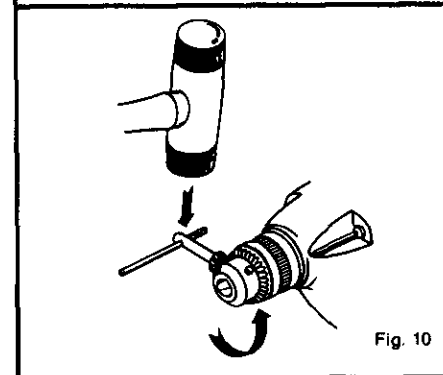

Fig. 10
5. Insert chuck key in chuck and tap sharply in a counterclockwise direction to loosen it on spindle. It can now be unscrewed by hand. See Figure 10.